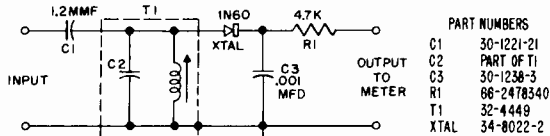

Figure 1. 4.5 mc. Detector Tube
- (1) Inject 4.5 MC AM signal into L24U or use station signal.
- (2) Connect 4.5 MC detector (see circuit, figure 1) to L3U
- (3) Connect 20,000 ohms/volt meter, set to 2.5 volt range, to detector output.
- (4) Turn contrast control fully clockwise (to maximum).
- (5) Adjust 4.5 MC trap (T1U) for minimum indication.